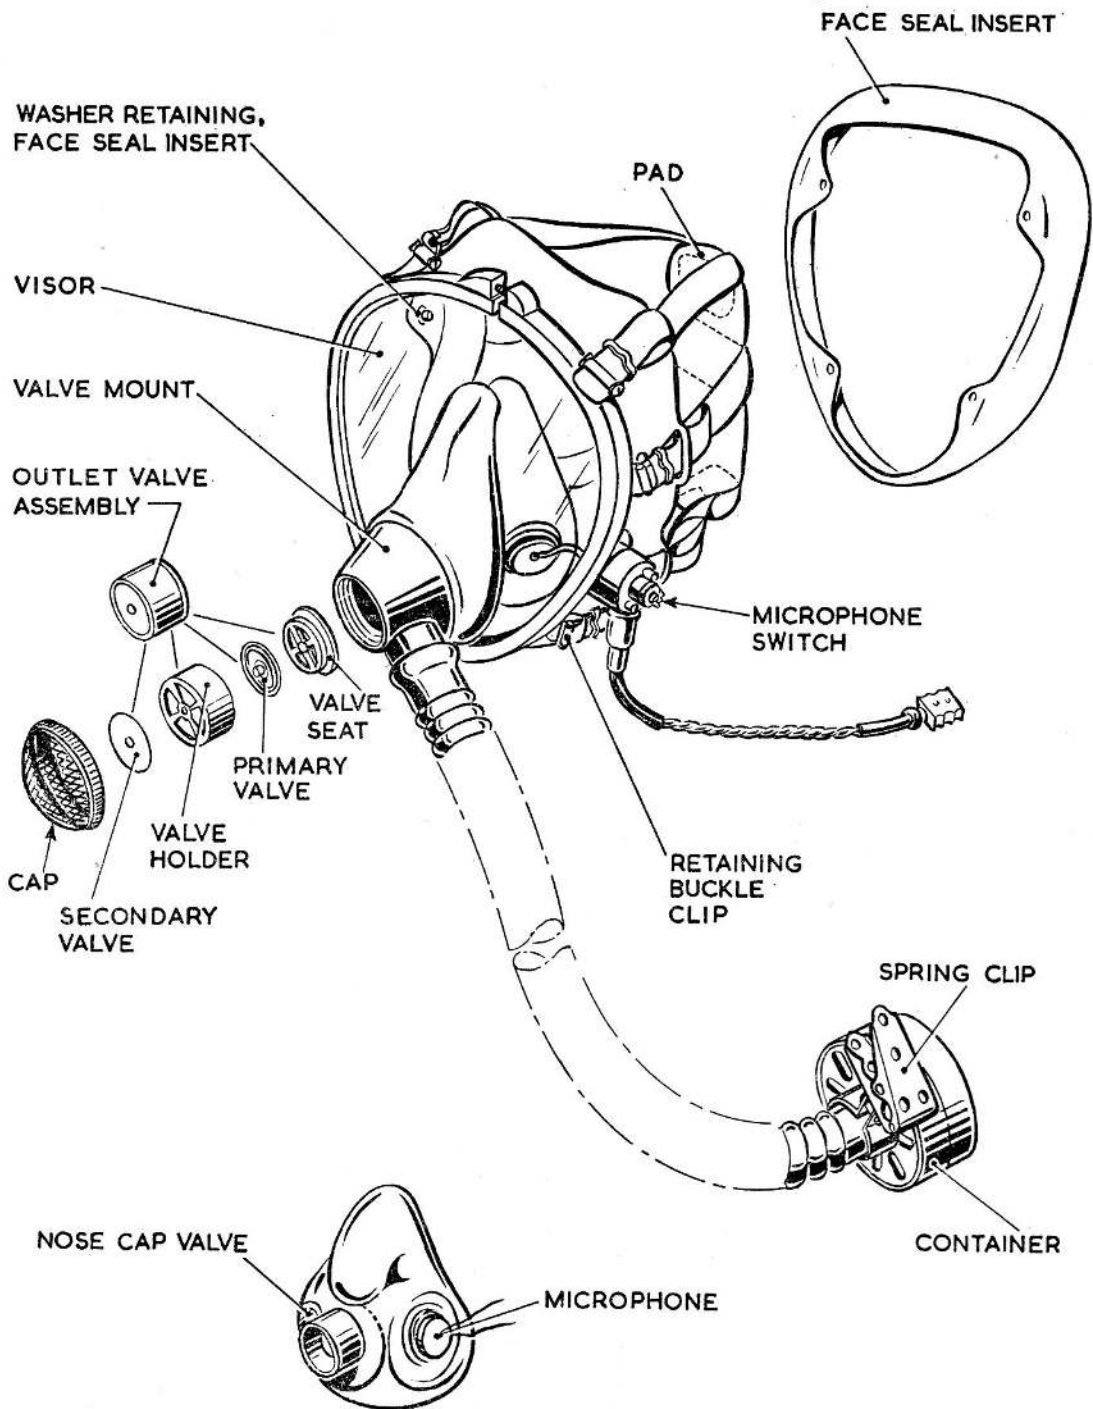

Fig. 1 Respirator, aircrew, Type A.R. 3
(3) Detach the disc valve from the metal holder in the inside of the nose cup and wash and dry it as described in sub-para. (2).
(4) Wipe the interior of the facepiece, including the face-seal channel and nose cup with clean water, taking care not to disturb the microphone components and leads, and allow to dry naturally.
(5) When the components are completely dry, replace the face-seal insert in the mask channel, re-assemble the valve outlet components in the correct order (fig. 1), replace the assembly in the valve mount and screw the metal cap firmly into the mount. Replace the disc valve on the rivet holder in the nose cup.